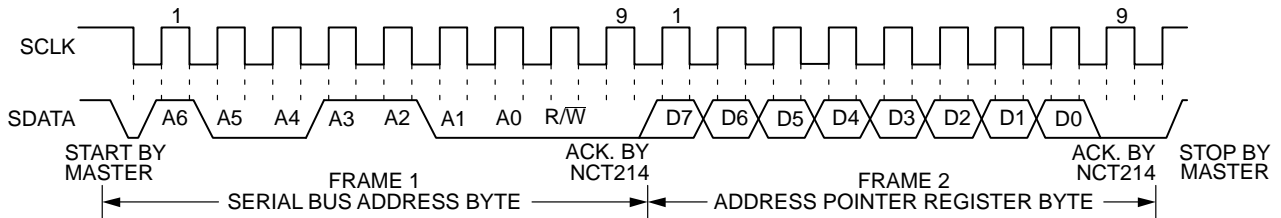
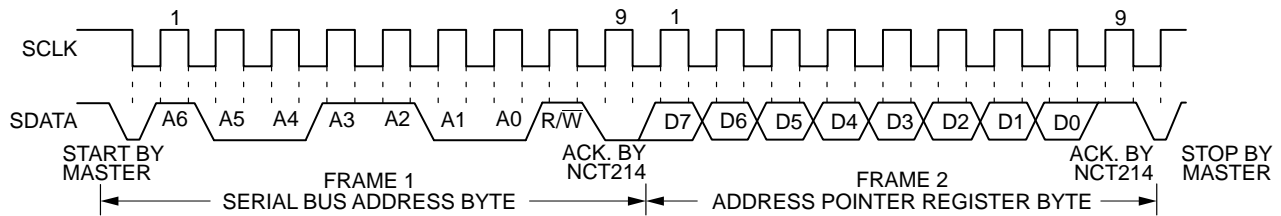

Figure 16. Writing to the Address Pointer Register Only
Figure 17. Reading Data from a Previously Selected Register
- If the address pointer register value of the NCT214 is unknown or not the desired value, it is first necessary to set it to the correct value before data can be read from the desired data register. This is done by writing to the NCT214 as before, but only the data byte containing the register read address is sent, because data is not to be written to the register see Figure 16. A read operation is then performed consisting of the serial bus address, R/\bar{W} bit set to 1, followed by the data byte read from the data register see Figure 17.
- If the address pointer register is known to be at the desired address, data can be read from the corresponding data register without first writing to the address pointer register and the bus transaction shown in Figure 16 can be omitted.